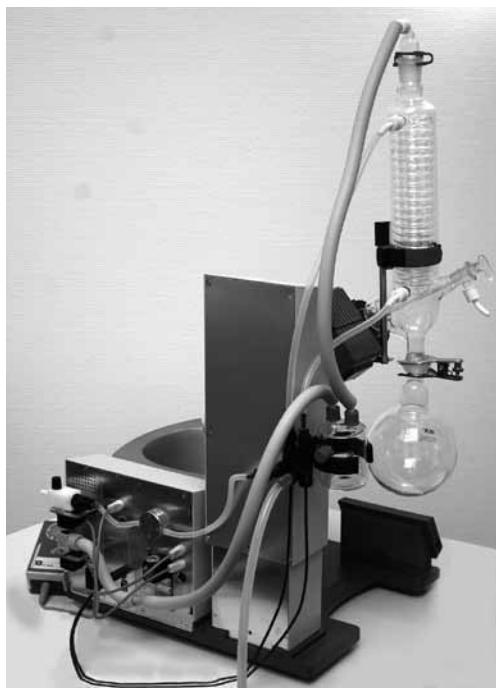

Fig. 21
- ☞ Connect the pressure sensor to the Woulff bottle and the Woulff bottle to the vacuum connector on the condenser using the vacuum hoses supplied. Please note that the vacuum must always be connected to the highest connection point on the condenser (fig. 21).